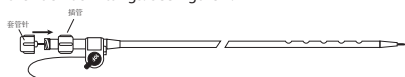

Figure 2
- Remove the paper spacer from the trocar stylette. Advance the trocar stylette through the metal stiffening cannula and tighten the Luer lock fittings. See Figure 2.